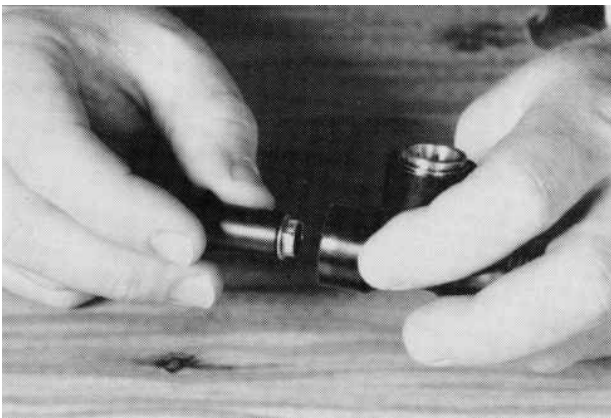

Figure 108 Press Tube Support Into Port
11. If the tube support was removed, place it or a new one into a shipping plug (supplied in the parts kit). Press the tube support into the port until it bottoms out (Figure 108). Remove the shipping plug with the plug removal tool.